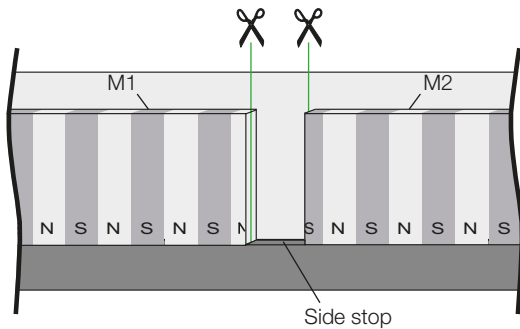
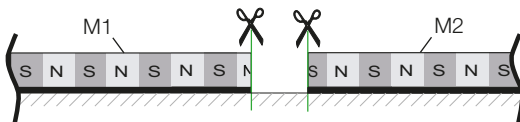
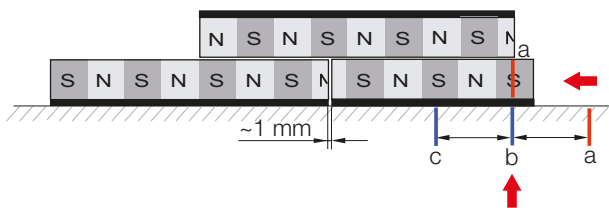

Fig. 4-7: Top view of tape
Fig. 4-8: Side view
Fig. 4-12: Position shortened tape
i The dimensioning shown in Fig. 4-7 to Fig. 4-12 refers to a tape with 5 mm pole width. For 10 mm pole width double the indicated dimensions.
i Cut both ends of the tape straight at the joint (Fig. 4-7 and Fig. 4-8)!
1. Tape M1 is already bonded. Fasten a side stop at the joint so the next tape M2 can be precisely aligned (Fig. 4-7).
- Place the aid tape on tape M1 and move it into a stable position and attach using adhesive tape (Fig. 4-12).
- Move shortened tape M2 towards the joint until the marking (a) on the tape is flush with the marking (b) or (c) on the machine part (Fig. 4-12). The aid tape must now have only one stable position into which it engages. If needed, slide tape M2 to the right or left to find the position with the greatest attraction.